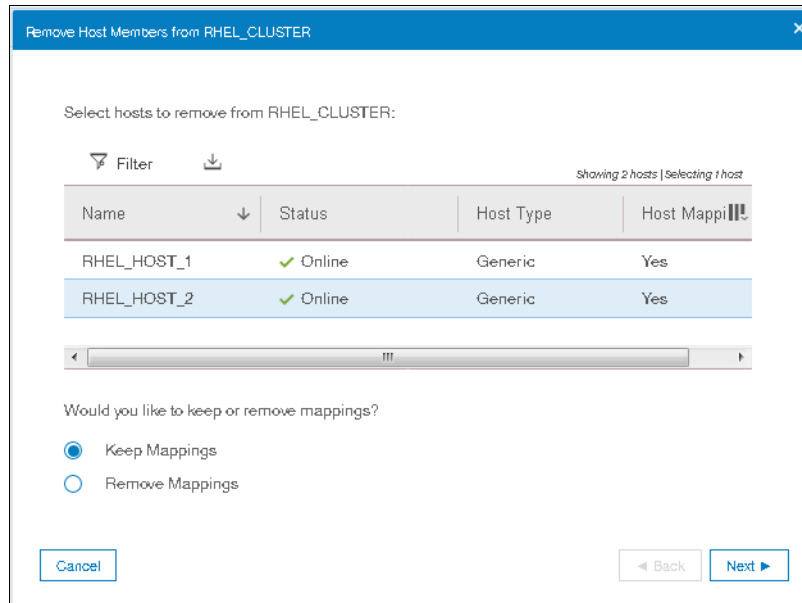

Figure 5-104 Host member selected
4. Select the host member that needs to be removed as shown in Figure 5-104 on page 260.